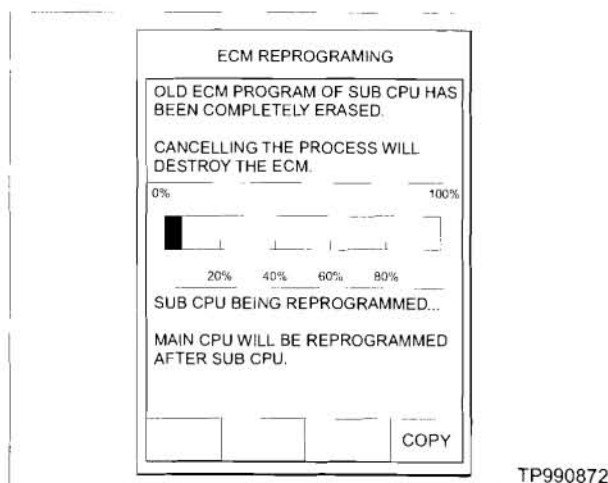

Figure A19
- After a few seconds, the window shown in Figure A19 will appear.